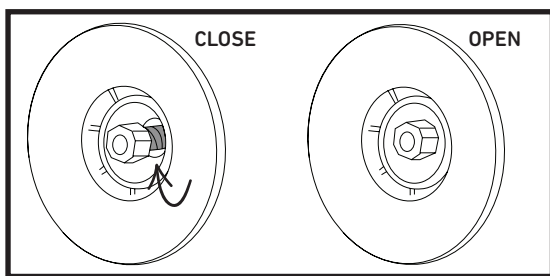

Fig. 1
3. Release the zipper at the back. Make sure the pump valve is in the position CLOSE (Fig. 1).